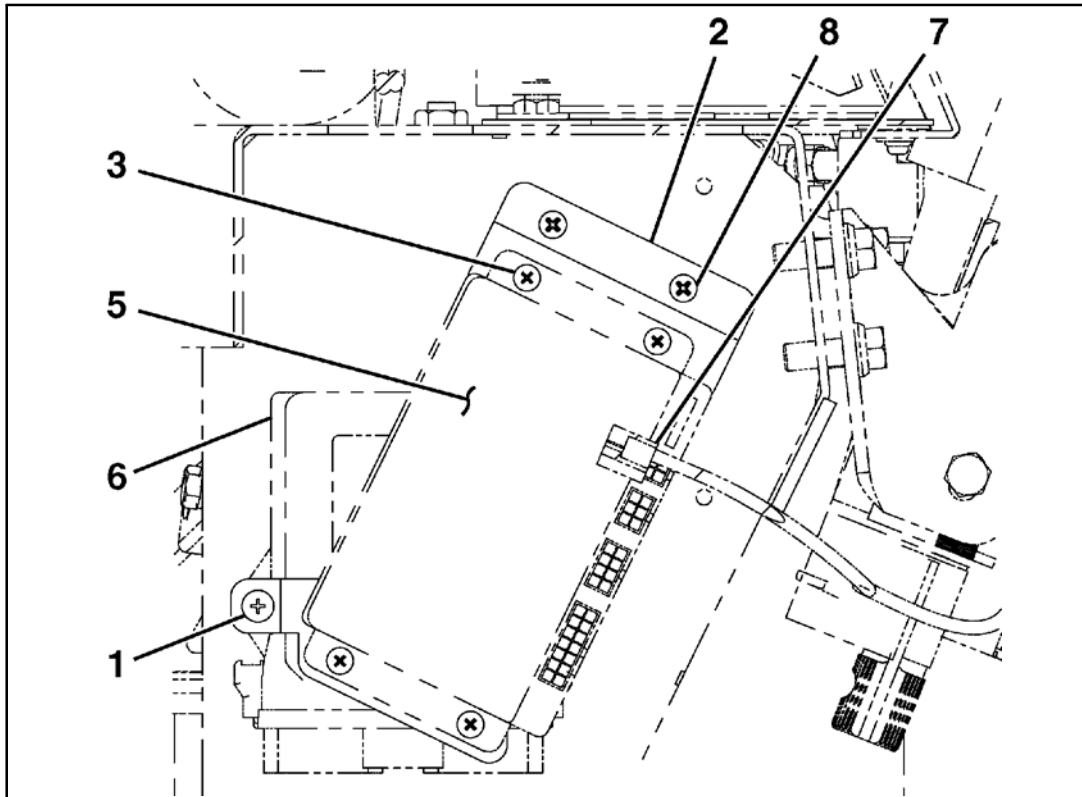

Figure 12. Bracket
- 23. Disconnect the steer angle sensor (SAS) connector, Figure 12, item #7.
26. Mount the VIP and bracket assembly to the existing pocket gateway mounting holes using 19-1-583 screws for the bottom bracket, mount the top bracket with p/n 19-1-696, screws, refer to Figure 12, items 1, 2 and 5.
27. Cut to length and install trimlock, p/n 21-7201-10, on bracket edge as shown in Figure 12, item #4.